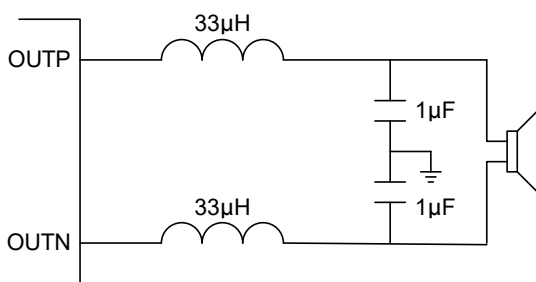
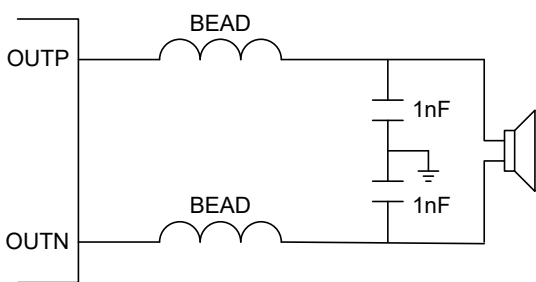

Figure 3. Typical LC Output Filter, Speaker Impedance=8Ω
Figure 4. Typical Ferrite Chip Bead Output Filter
In Figure 4, the 330pF capacitors in series with 10Ω resistors connected with the outputs of the VA2221L, VA2221A are snubber circuits. They smooth switching transitions and reduce overshoot and ringing. With these networks, THD+N can be improved at lower power levels and EMC can be reduced 2~4 dB at middle frequencies. They increase quiescent current by 3mA~11mA depending on supply voltage.
4. Output Filter. The ferrite EMI filter (Figure 4) should be placed as close to the output terminals as possible for the best EMI performance. The LC filter (Figure 3) should be placed close to the outputs. The capacitors used in both the ferrite and LC filters should be grounded to power ground.